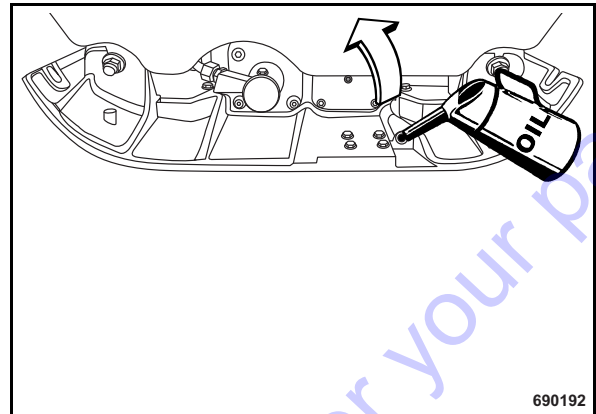

Fig. 74
- Fill in fresh engine oil through the drain opening (Fig. 74).